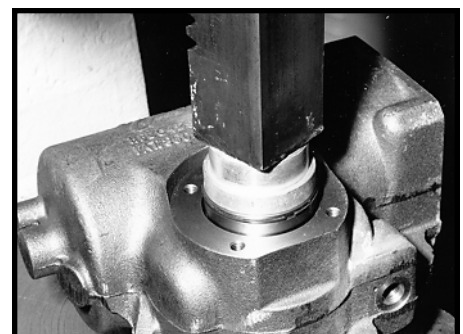

Figure 99
- If you are installing a new housing bearing (21) or using the old housing and bearing assembly, apply a generous amount of clean grease to the bearing race to retain the bearing rolls. Then, place the rolls into the race, being sure you have the correct quantity of rolls for your particular bearing assembly. To install the new bearing assembly (21) into the housing, first install the retaining ring (22) into the groove on the bearing's outside diameter. Then press the bearing into the housing from the trunnion side using bearing mandrel (special tool) J26738 or J37071 against the lettered end of the bearing shell so that the retaining ring is away from the housing bore. SEE FIGURE 99. During this procedure be sure that the housing is square with press base and the bearing is not cocked.